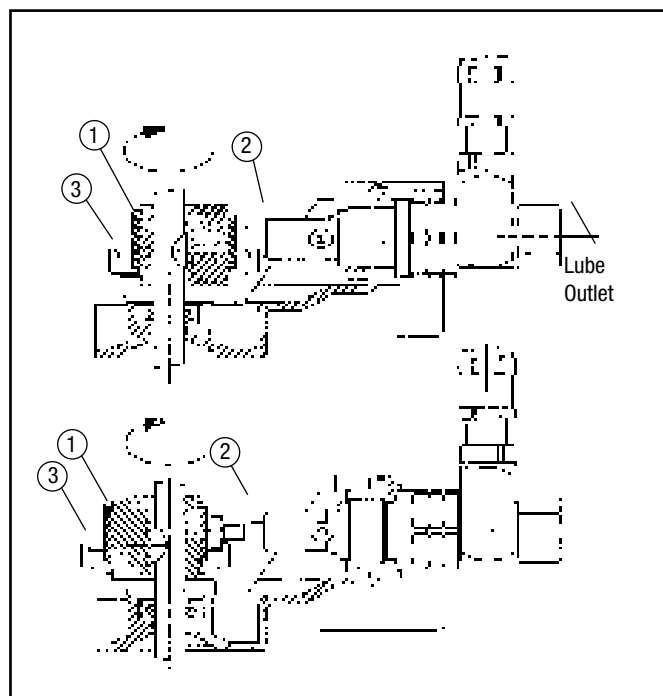

Figure 1-1
- 1.4.1** **Figure 1-1** shows the general relationship of the pump element and the drive eccentric. The following steps outline the operating sequence: